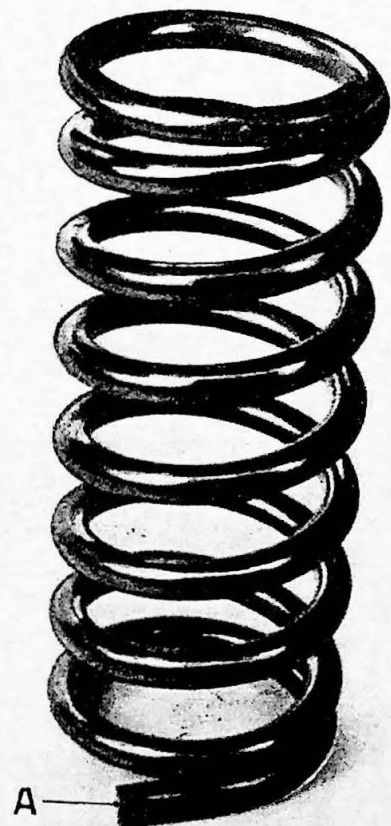

Fig. 2. Front spring.
1. Place the spring in the attachment on the control arm. The straight end of the spring (A Fig. 2) must face downwards.